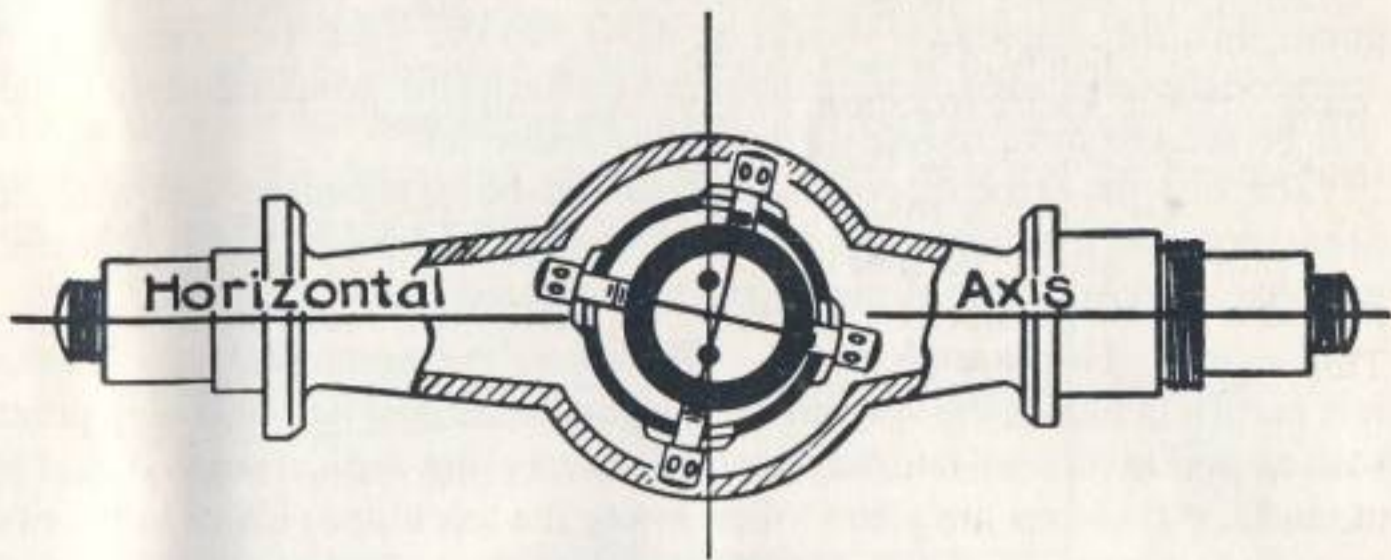

Fig. 8. Test for Verticality of Cross-Hair
2. **Cross-Hairs** — In a perfectly adjusted instrument the intersection of the cross-hairs should lie in the optical axis of the telescope, the vertical hair should lie in a plane perpendicular to the horizontal axis of the transit, and the line of sight as defined by the vertical hair should be perpendicular to the horizontal axis. (See Fig. 8).